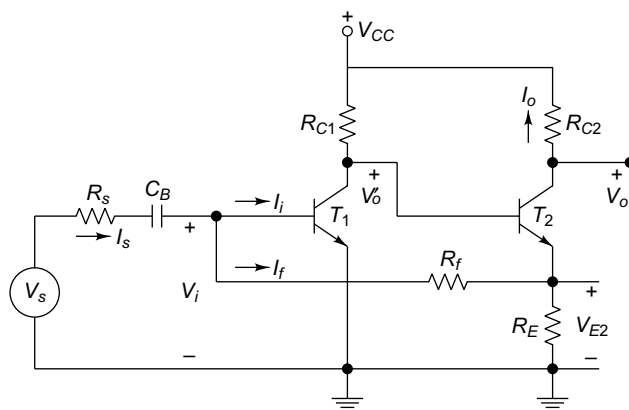

Fig. 2.51
25. Figure 2.51 shows the transistor feedback amplifier circuit and it has the following parameters